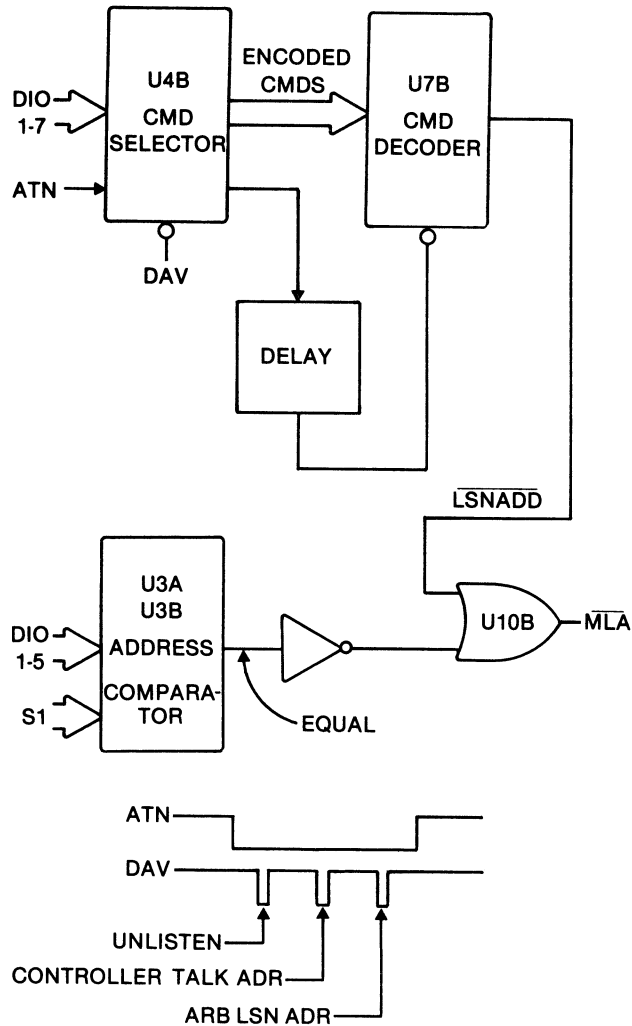

Figure 6-2. MLA Diagram
2. Verify that REM and LSN are on. If REM and LSN are not on, study figure 6-2 and the following discussion.